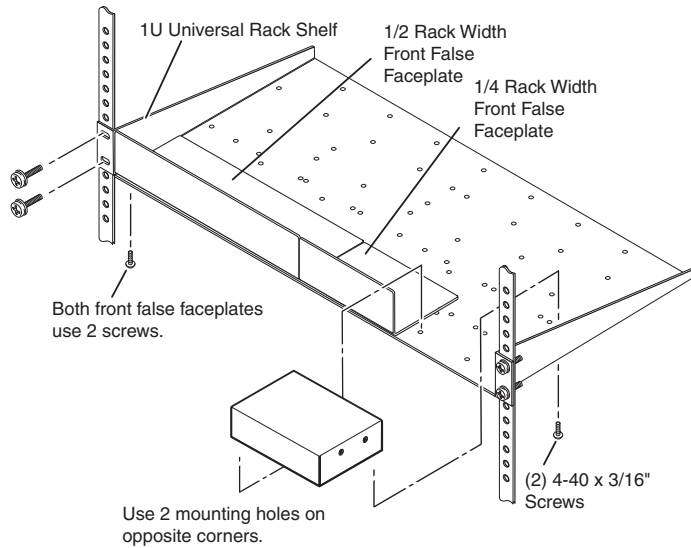

Figure 2-2 — Mounting the transceiver on a standard rack shelf
- RSU 129 9.5" deep 1U universal rack shelf kit (part #60-190-01) (figure 2-2 on the next page)